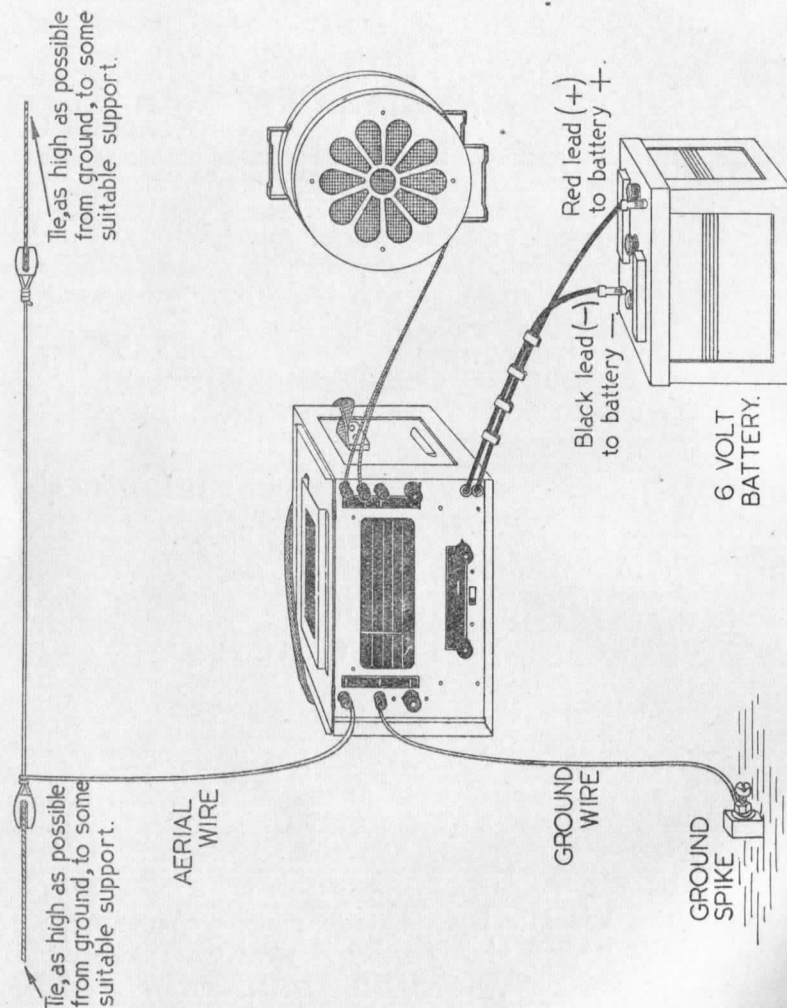

FIGURE 1.
- 5.1 An aerial consisting of 100 ft. of insulated wire and two insulators is supplied with each receiver. The aerial should be erected as shown in figure 1.
- 5.2 25 ft. of Insulated (rubber covered) wire and a ground spike are supplied with each receiver for use as a ground connection. The receiver should be connected to the ground spike in accordance with figure 1. With battery operated equipment a good ground connection is necessary for best results.
- 6.4 Erect aerial-ground system as shown in figure 1, making sure that the connections to the receiver terminals and to the ground spike are tight.